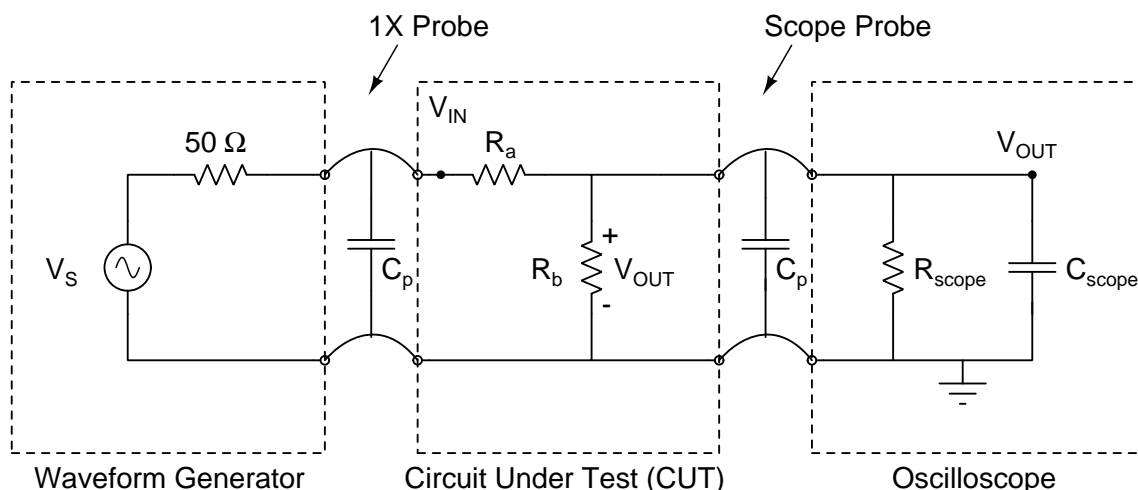

Figure 2: Measurement set-up for the resistor divider circuit.
This lab illustrates that the actual values of the components, and the impedances associated with the test equipment and cables, must be considered when determining the actual value of the voltage across a circuit element. All voltage sources, including batteries and waveform generators, have a finite source impedance. All measurement equipment, including oscilloscopes and digital volt meters (DVMs), have a finite input impedance that presents a load to the circuit. Cables that connect the circuit to the test equipment introduce additional impedances in the circuit. The schematic of the circuit under test (CUT) when connected to a waveform generator (WG) and oscilloscope (scope) is shown in Figure 2.
1. Use Matlab® to plot the capacitance, DF, and ESR as a function of frequency for the 1X-probe and scope probe that you recorded during the Lab Procedure item 1 and item 2.
2. Use NGspice to simulate the expected output voltage  $V_{OUT}$  as a function of the resistance  $R$ , when the value of  $R$  is varied from  $10\ \Omega$  to  $10\ \text{M}\Omega$ . Simulate the circuit of **Figure 2**. Include the capacitance of each probe, the output resistance of the WG, and the input impedance of the scope. A Matlab® file is available at: ([https://davidkotecki.com/ECE214/docs/Matlab/ECE214\\_2022\\_Lab1.m](https://davidkotecki.com/ECE214/docs/Matlab/ECE214_2022_Lab1.m)).
3. Plot the simulated results from Post-Lab **item 2** on a semi-log graph with the x-axis (resistance value) as the logarithmic scale. On the same graph, plot the three measured values of  $V_{OUT}$  from **Table 2**.